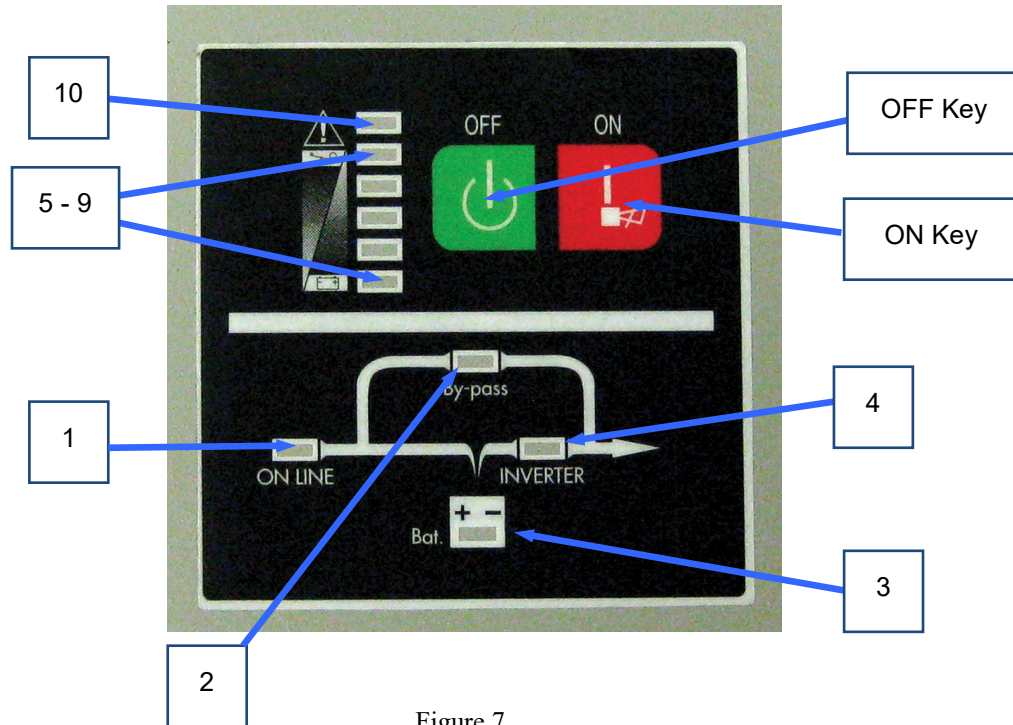

Figure 7
- 6.1.4. After the cycling of the LED's, press the "On Key" (see Figure 7) until the unit gives a beeps.